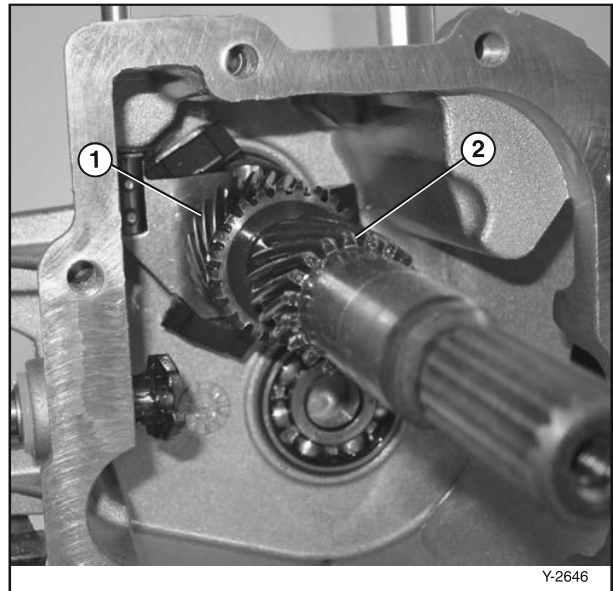

Figure 6-50
20. Remove the input shaft (Figure 6-50, (2)) and rotate the governor shaft (Figure 6-50, (1)) out of the groove on the input shaft.